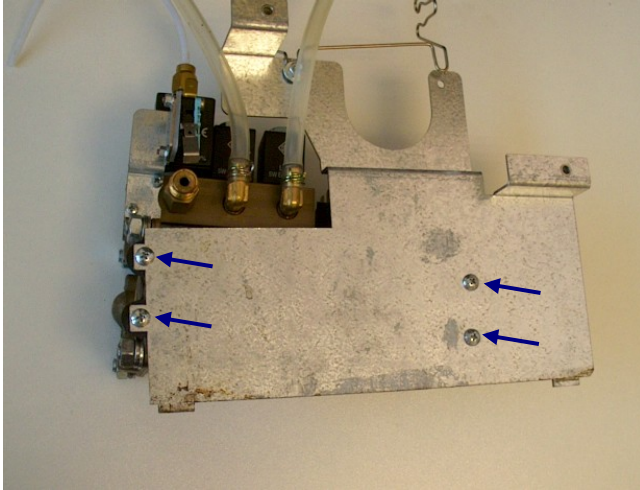

Fig. 11
9. Remove the mounting plate by undoing the 4 screws shown (Fig. 11)